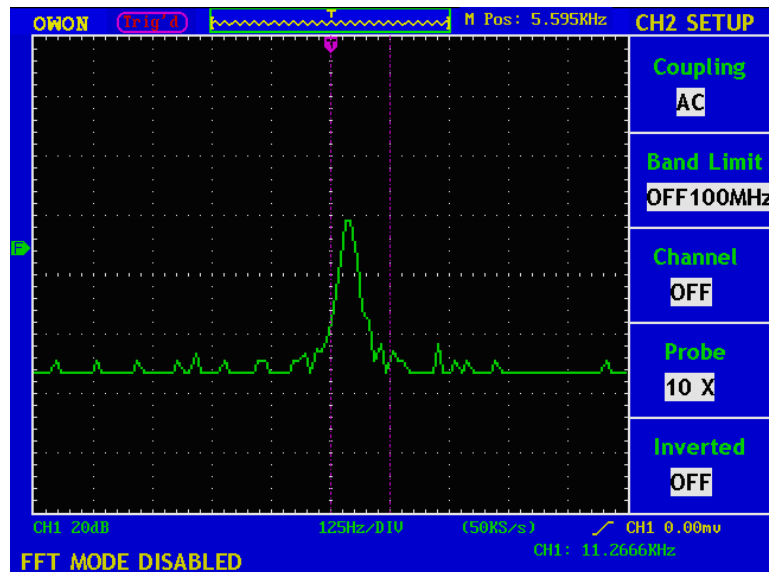

Fig. 5-4 Channel CH1 is disable under FFT mode
- (1). Press the **CH1 MENU** button and call out the **CH1 SETUP** menu.
- (2). Press the **F3** menu selection button and select the Channel as **OFF**, with Channel 1 switched off.
- (3). Press **F3** menu selection button again, select the channel as **ON**, with Channel 1 is switched on.
**Note: In FFT mode, both CH1 and CH2 are not allowed to be ON when F3 is pressed. See Fig.5-4.**